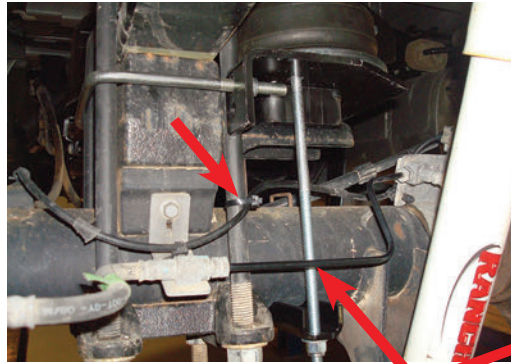
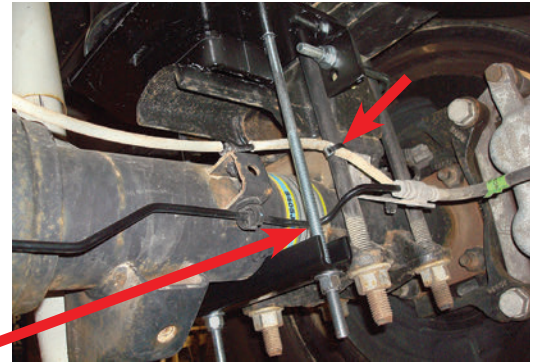

fig. D.20
fig. D.21
On the driver's side (left), the long carriage bolt in the lower bracket main plate should be located between the hard brake line and axle (Fig. D.20). On the passenger's side (right), the carriage bolt should be located on the backside of the brake line (Fig. D.21).
6. Figures D.20 & D.21 show the lower bracket installed.
IT WILL BE NECESSARY TO PUSH THE HARD BRAKE LINE AWAY FROM THE LOWER BRACKET CARRIAGE BOLT IF THE LINE IS RESTING ON IT (FIGS D.20 & D.21).